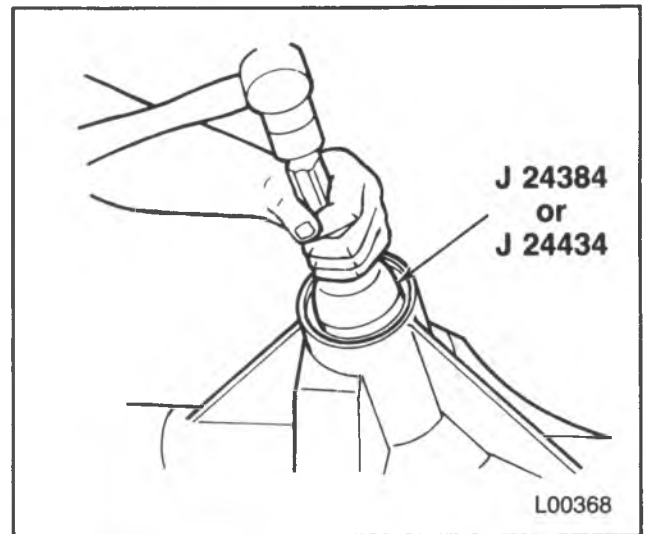

Figure 33 — Installing Pinion Oil Seal into Bore
Install or Connect (Figure 33)
1. Oil seal into the bore using J 24384 (figure 33).